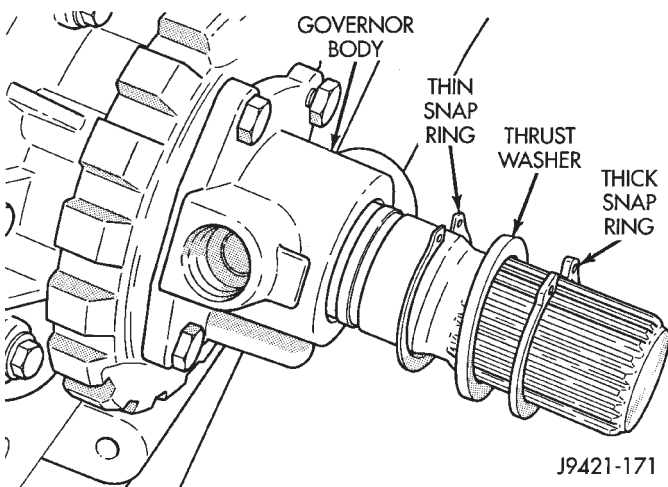

Fig. 32 Snap Rings And Spacer
(11) Remove snap rings and spacer that retain governor body and park gear assembly on output shaft (Fig. 32).
(a) Install thin snap ring first. Then install thrust washer second, and thick snap ring last (Fig. 32).